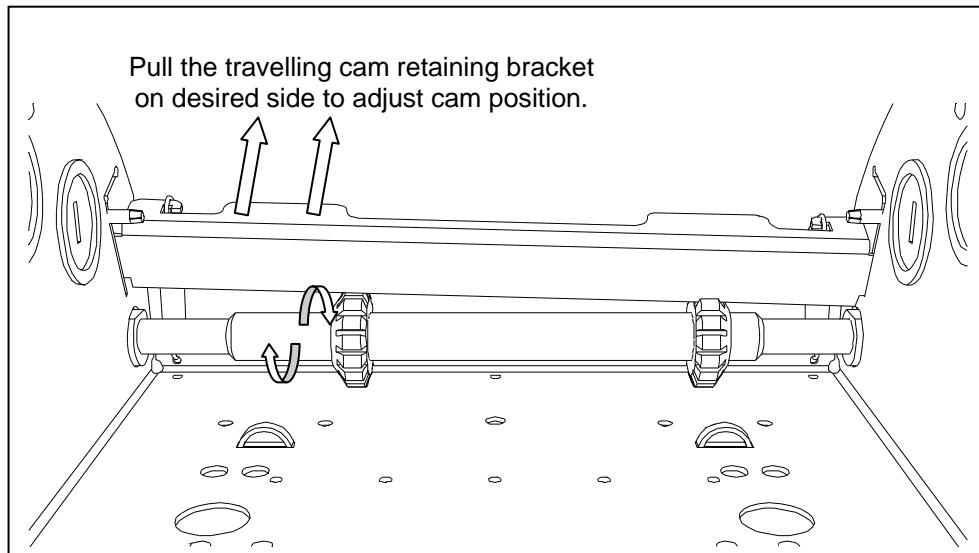

Figure 21 Adjusting The Limit Cams
3. Pull the traveling cam retaining bracket on the Open Position cam side and rotate the Open Position cam. **Refer to Figure 21, Adjusting The Limit Cams.**